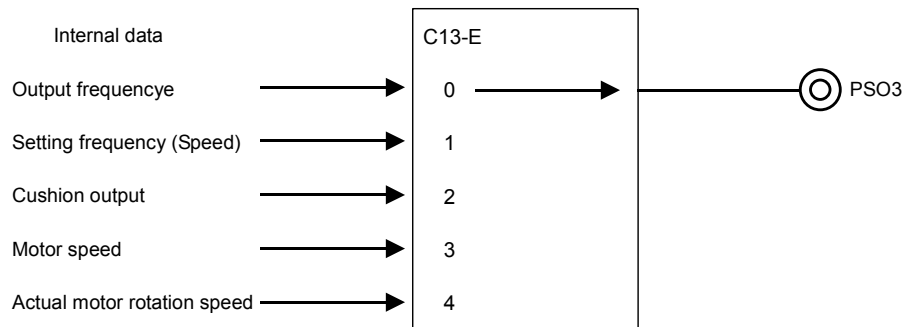

Fig. 5-8-3-a Pulse train output assignments
- 3) Select the internal data to be output as a pulse train with C13-E as shown in Fig. 5-8-3-a.